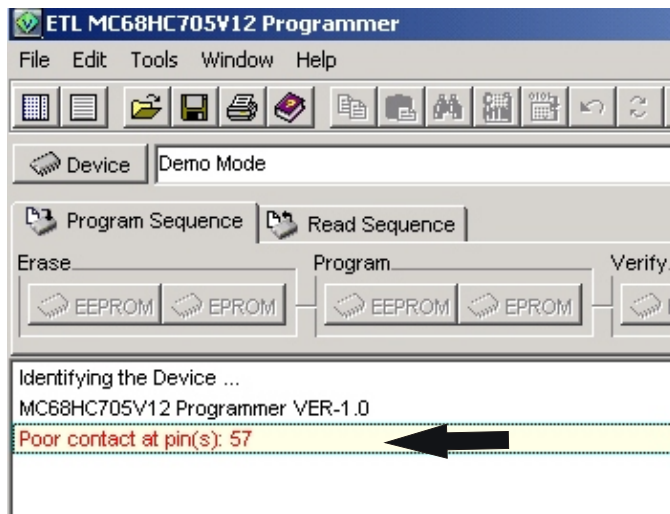

Figure 5 (Error: pure contact)
- Bad contact in socket (see Figure 5)